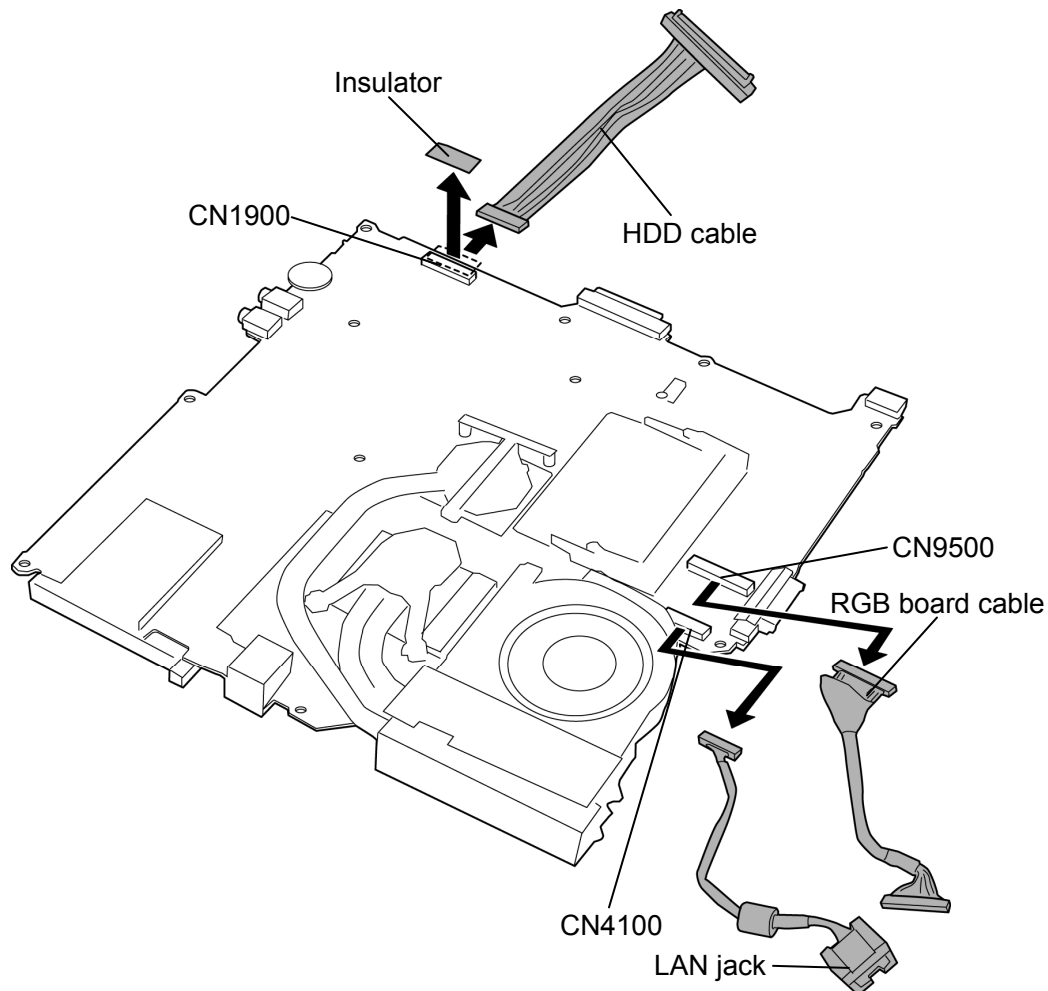

Figure 4-35 Removing the HDD cable/LAN jack/RGB board cable
To remove the HDD cable/LAN jack/RGB board cable, follow the steps below and refer to Figure 4-35.
To install the HDD cable/LAN jack/RGB board cable, follow the steps below and refer to Figure 4-35.
13. Install the **North bridge and GPU hold plate** on the North bridge and GPU heat sink and secure them with the following **screws** (Secure the circled portion first in the figure 4-35.). (In the case of the GPU model.)